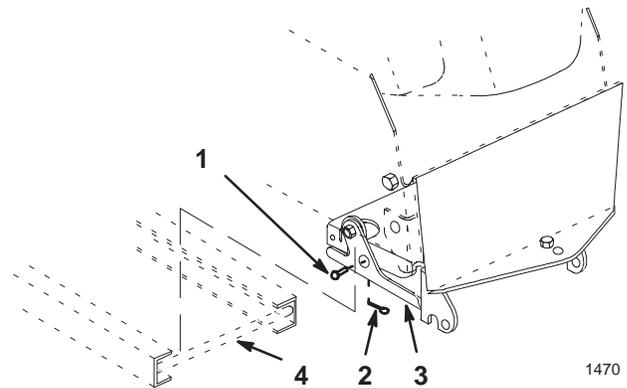

Figure 13
5. Remove the hairpin cotters and clevis pins from the latch levers (Fig. 13). Open the latch levers and lower the frame (Fig. 13).